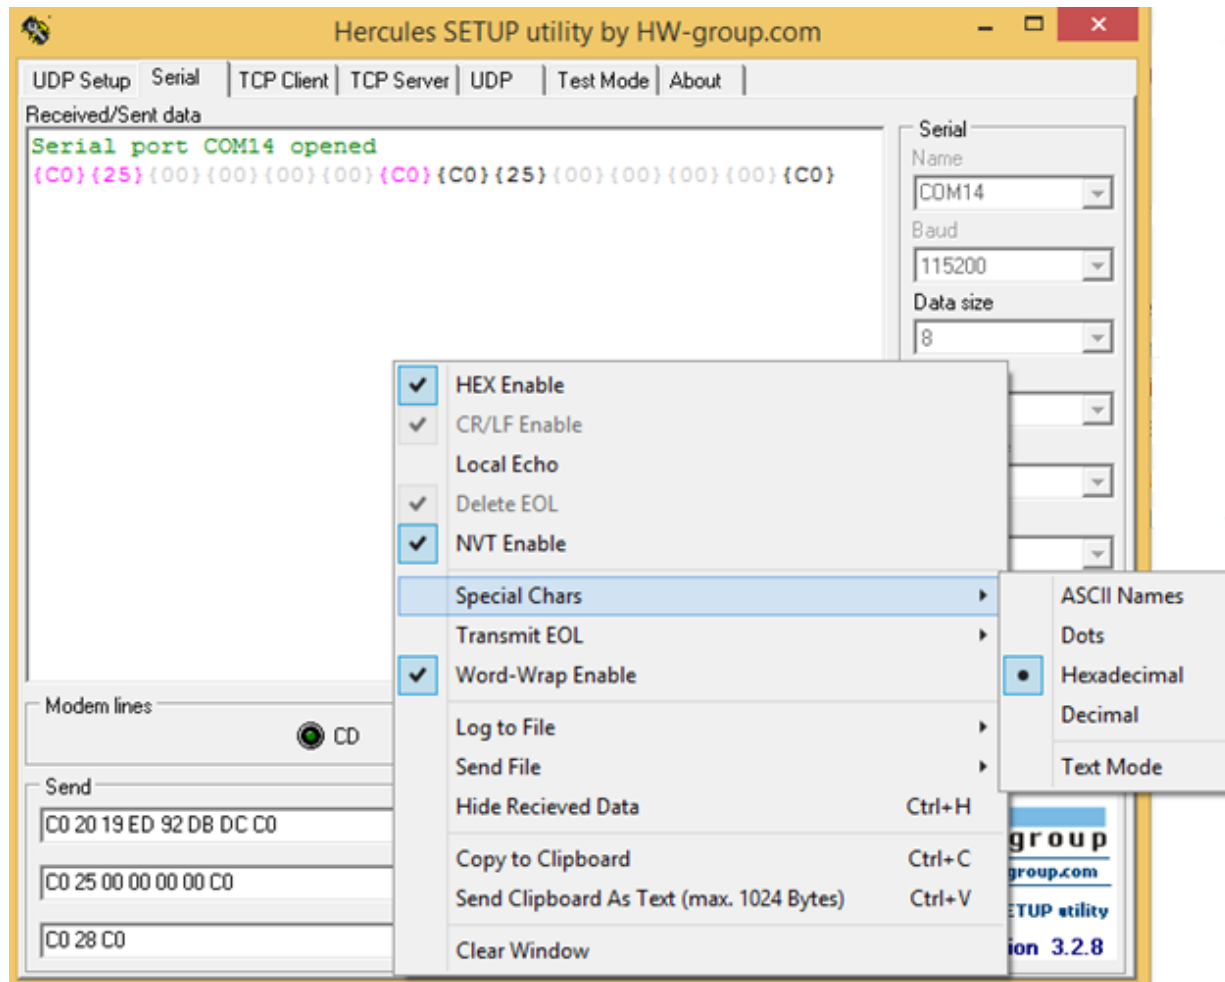

Figure 4 - Hercules SETUP utility settings
2. Connect USB-to-UART converter TX to J301 UART1_RXD pin (4) and RX to J301 UART1_TXD pin (5).
3. Connect USB-to-UART converter +3.3V pin to J301 Vcc_SYS pin (8).
4. Connect USB-to-UART converter ground pin to J301 ground pin (7).
9. Press the right mouse button on the Received/Sent Data screen and ensure that "Hex Enable" and "Special Chars -> Hexadecimal" are turned on (refer to Figure 4)